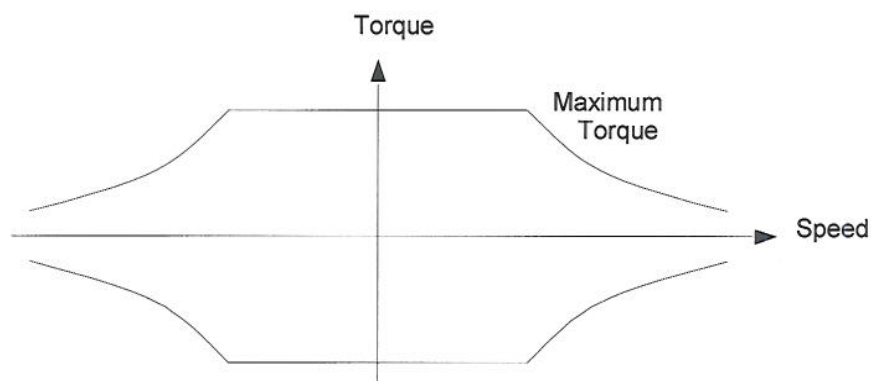

Figure 6 A typical torque speed diagram of an electrical drive system
- (c) Justify the shape of the torque speed diagram in figure 6 with respect to a dc machine. Calculate the principal points on the diagram for a system with the following properties: